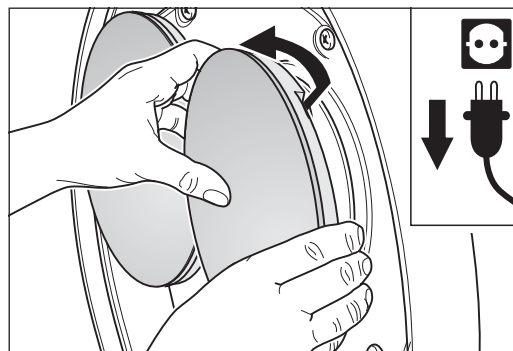

Fig. 27 Grasp the sanding plate edges with your fingers and pull it out of the rubber plugs.
- 4 To remove the sanding plate, grasp its edges with your fingers and pull it out of the rubber plugs of the bearing (fig. 27). **Never use a screwdriver or a chisel for this job as this could otherwise cause damage to the plates or the machine!**